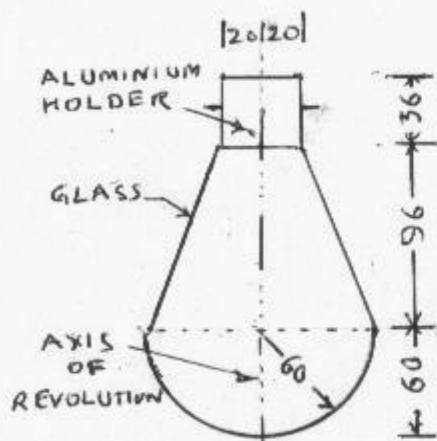

fig 4. Q. 3(a) 1st Alt.
Q.3 (a) Find surface area of the glass to manufacture an electric bulb shown in **fig. 4**, using first theorem of Pappu-Guldinus. 07